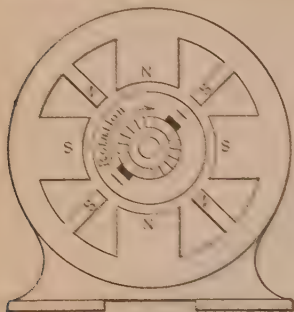

FIG. 129. Four-pole generator with commutating poles.
Note, in Fig. 129, that if we start with the north pole at the top and go around the frame clockwise (the direction in
**Prob. 7a.** Draw the field coils on the main shunt poles and commutating poles in the generator. Fig. 129, showing the direction and source of current in each coil.